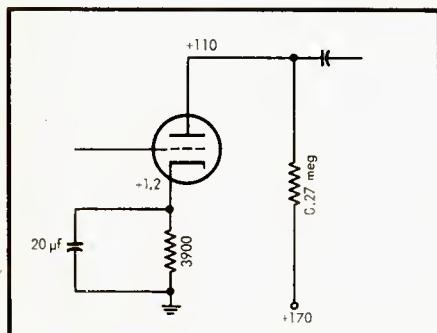

Fig. 1. Typical schematic of input stage of a high-gain amplifier with cathode resistor bypassed in the customary fashion.
A 20- μ f capacitor at the power line frequency of 60 cps has a reactance of about 130 ohms. *Figure 1* shows a common circuit of a triode with the 20- μ f capacitor placing the cathode 130 ohms above ground and the 3900 ohm resistor providing a d.c. bias on the tube of 1.2 volts.
The writer had long used a standard two-way speaker, with the woofer in an 8-eu. ft. bass-reflex box of conventional design, and while the reproduction quality has been considered excellent, the low-frequency output did not compare with that of a good theatre system. Thinking from this point, the next step appeared to be in the direction of a corner speaker, yet utilizing the reflex action of a vented cabinet. Basically, therefore, the new design could still be described as a bass-reflex cabinet, but it occupies the corner of a room and is arranged so that the vents are loaded by a horn comprised of the walls and the sides of the cabinet enclosure. The plan view of the cabinet is shown in *Fig. 1*, with the vent openings A-A' along the sides. Thus the vents are loaded by the straight-sided "horn" between the wall and the cabinet.
Fig. 1 (above). Plan view of the new design, showing vents at either side between the cabinet and the wall and the horn loading provided by the wall and the cabinet sides.
Getting down to a specific design, therefore, the cabinet takes the shape shown in *Fig. 1*, for a cross section at the plane of the low-frequency cone, and at (A) of *Fig. 3* at the plane of the center of the TV picture tube. The top of the low-frequency cabinet has the outline shown in the solid line at (B), with the superstructure shown by the dotted lines. The top is 39 inches from the floor, and the corners of the top meet the side wall 36½ inches from the corner. Allowing for the volume of the speaker well and speaker end of the tube enclosure, the net volume of the cabinet is 8.5 cu. ft. This does not include the